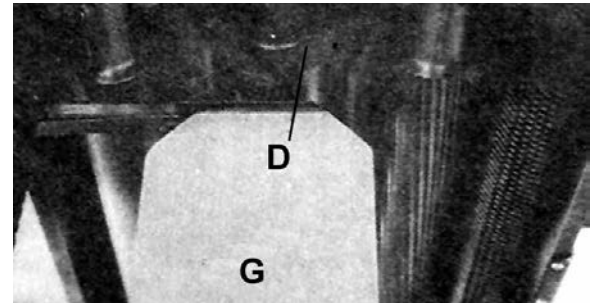

FIGURE 25
3. Place the gauge block (G) on the table directly underneath the cutterhead, as shown in Fig.25. Using a 0.02" Feeler gauge (D) placed on top of the gauge block, raise the work table until the cutter insert just touches the feeler gauge. Do not move the work table any further until the outfeed roller is adjusted.